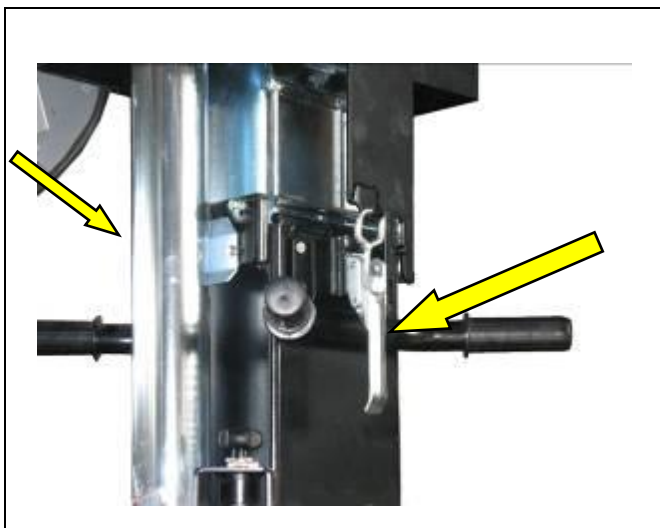
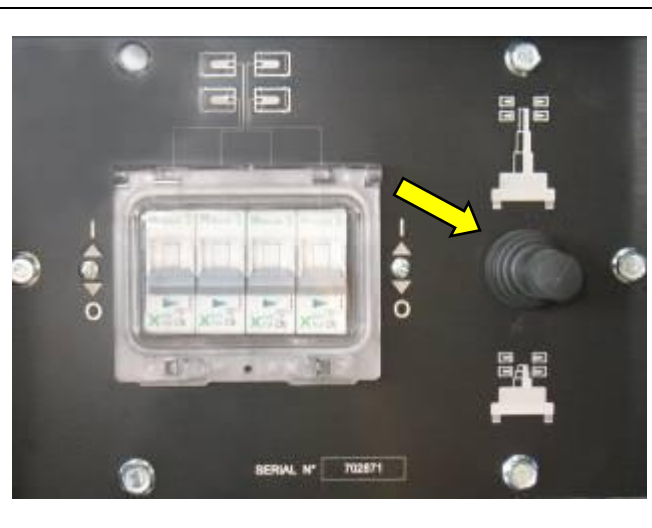

Figure 5.5 – Safety lever (2 levers)
Figure 5.6 – Raising the column
- ④ Release the column locking hooks (figure 5.5), start the generating set (see para. 6) then raise the column using the lever located on the control panel (figure 5.6).